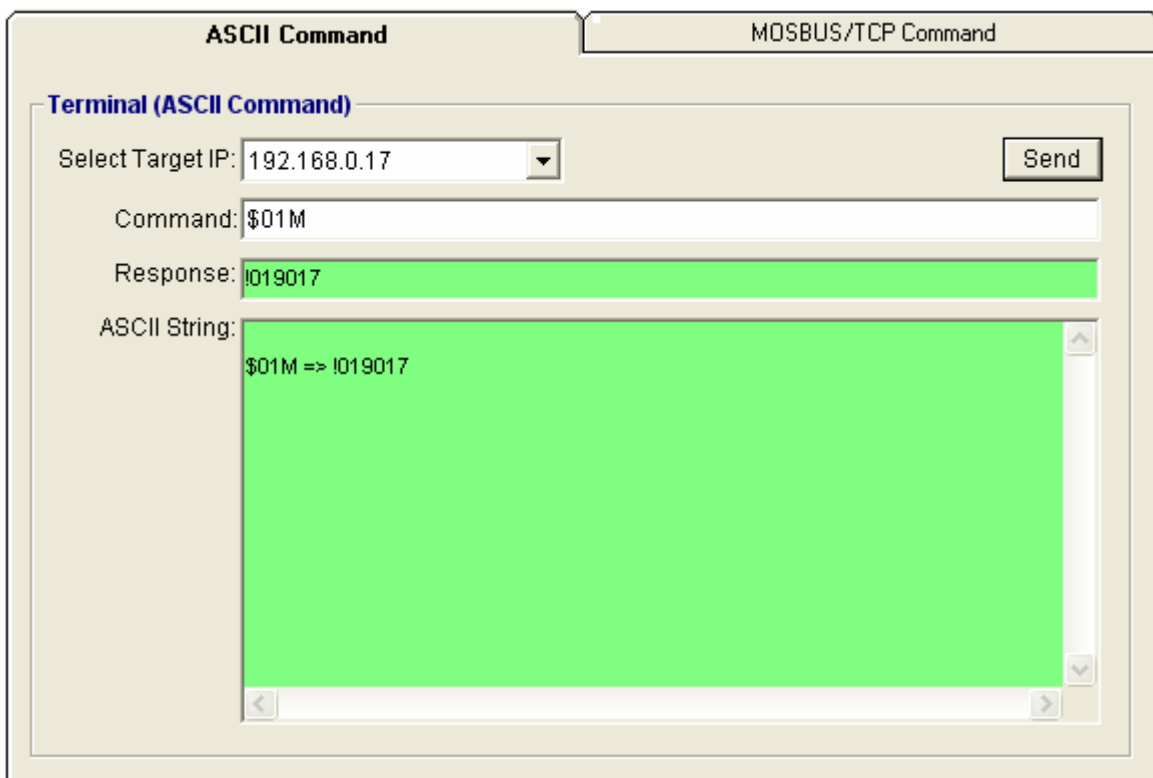

Figure 3-5 ASCII Command Terminal
**ASCII Command mode:** shown as Figure 3-5.